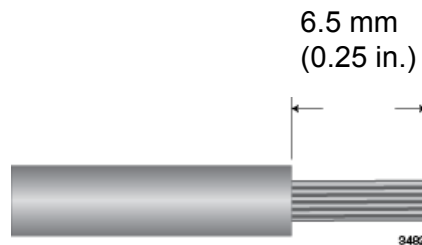

Figure 23. Stripping the Stranded Grounding Wire
1. Strip an adequate amount of insulation from one end of the ground cable, for the ring lug. The amount may vary depending on the type of ring lug, but 6.5mm (0.25 in) is typically sufficient. Refer to Figure 23.